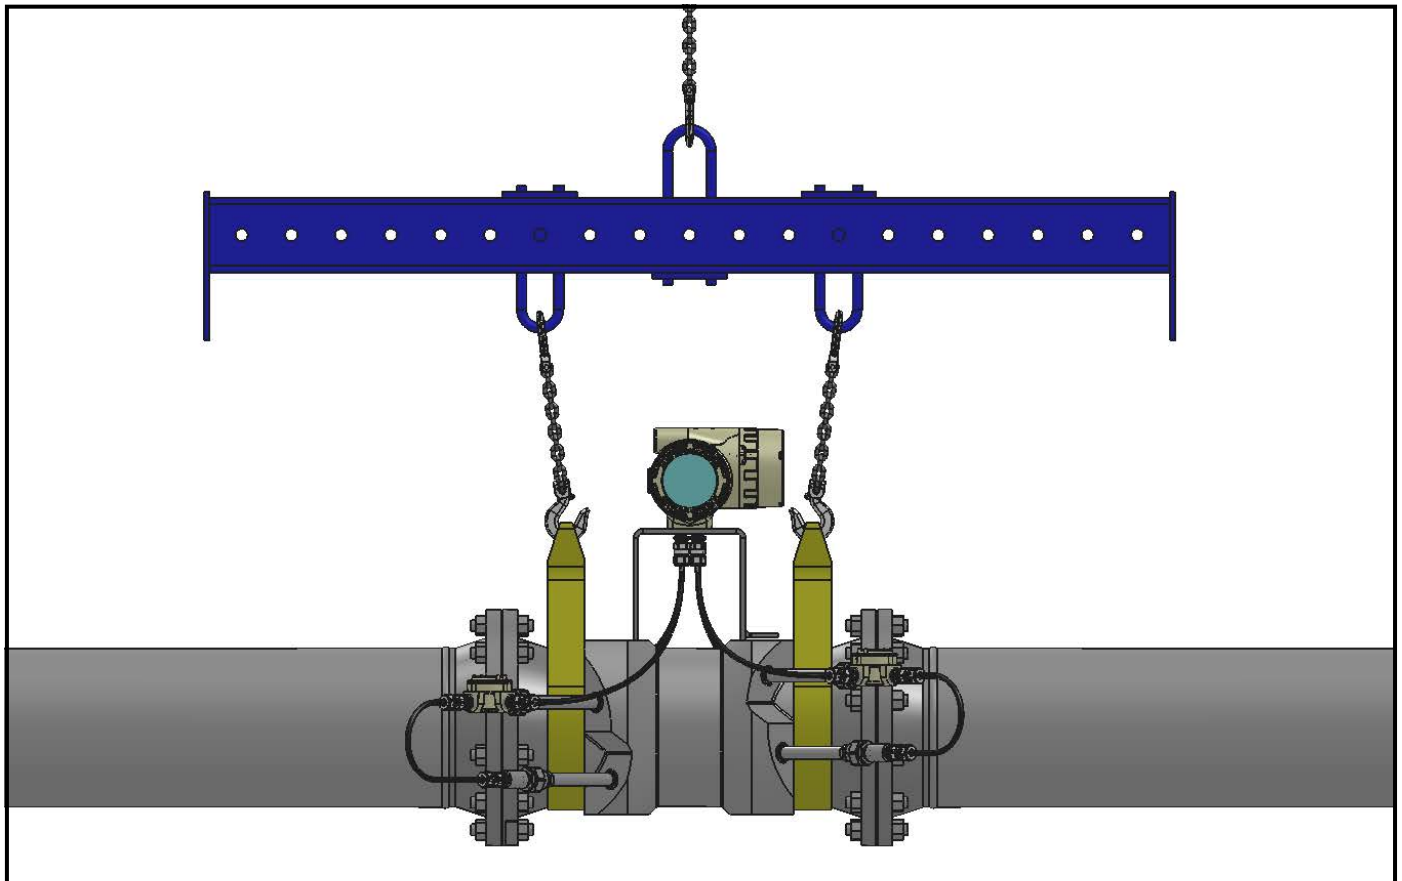

Figure 9: Lifting Strap Locations
CAUTION! To avoid possible strain, refer to the Sentinel LCT label for the assembly weight, use a properly-rated lifting assembly, and place the lifting straps in the indicated locations. See Figure 9 below.
- Make sure the **Sentinel LCT** is oriented with the flow transmitter in a vertical position at the top (see *Figure 9* below).